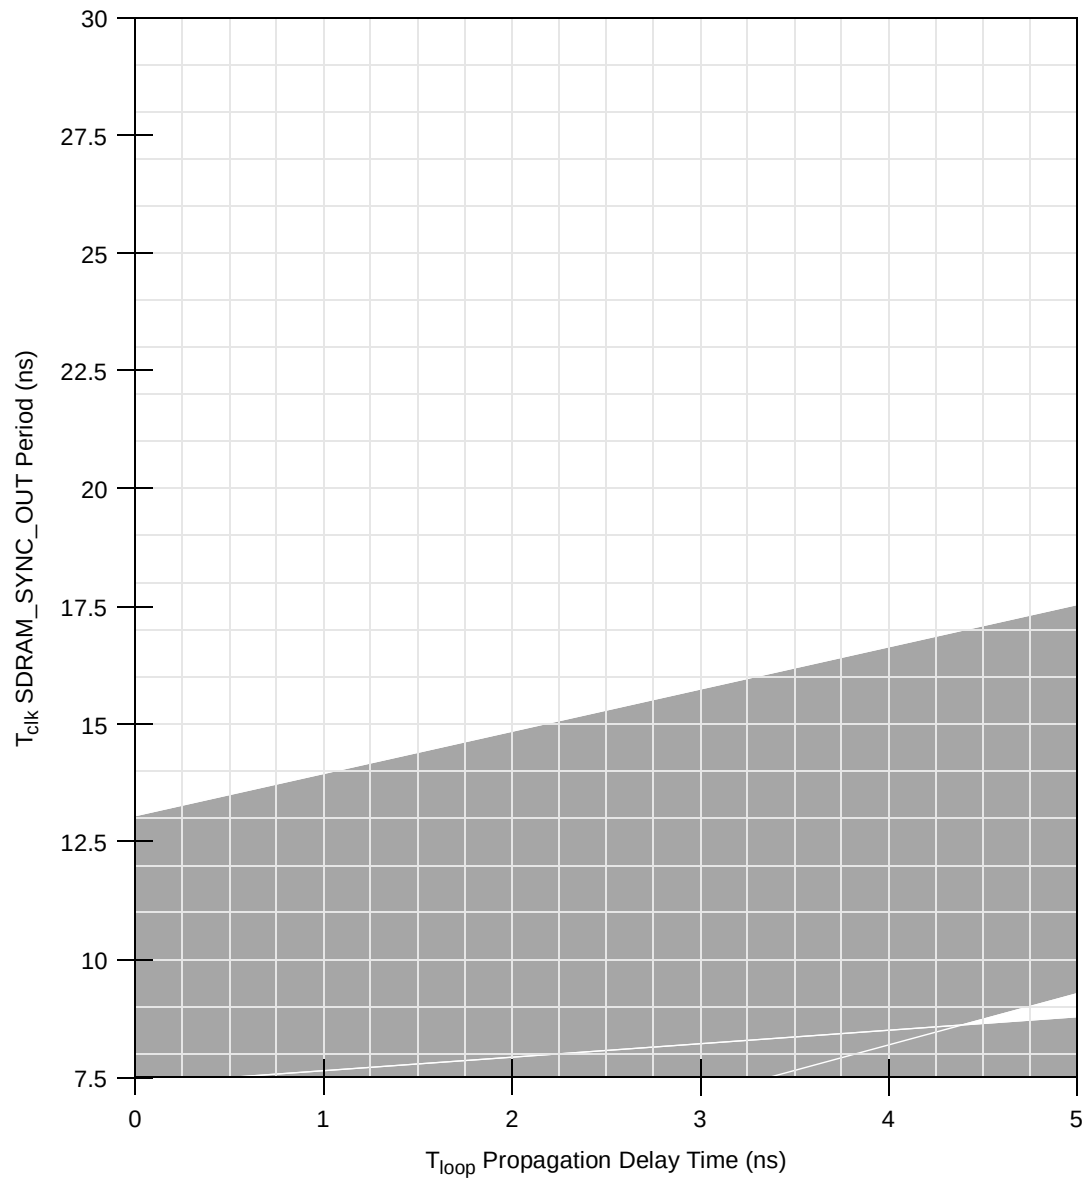
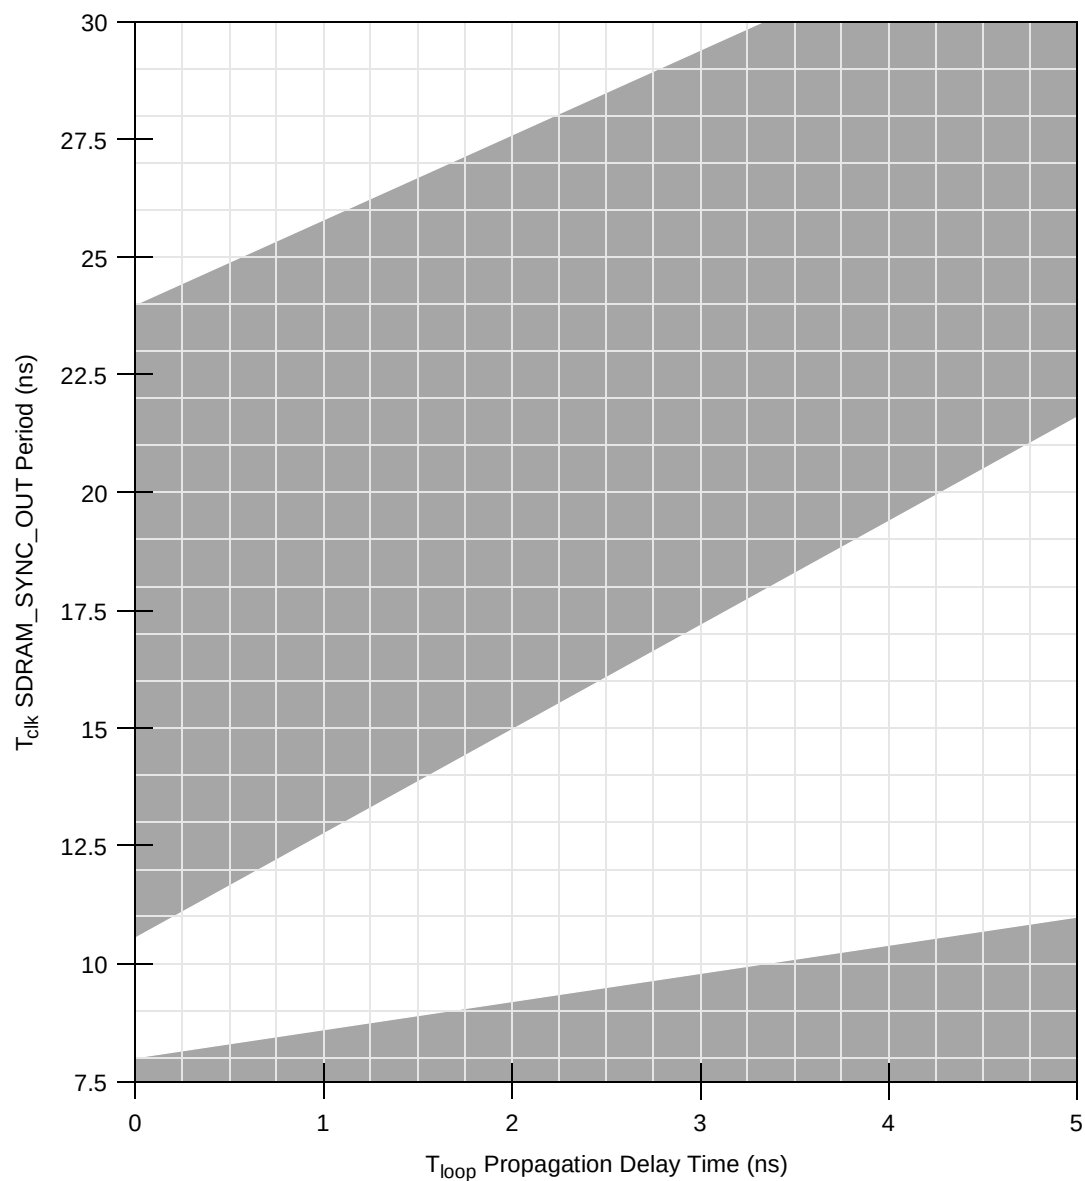
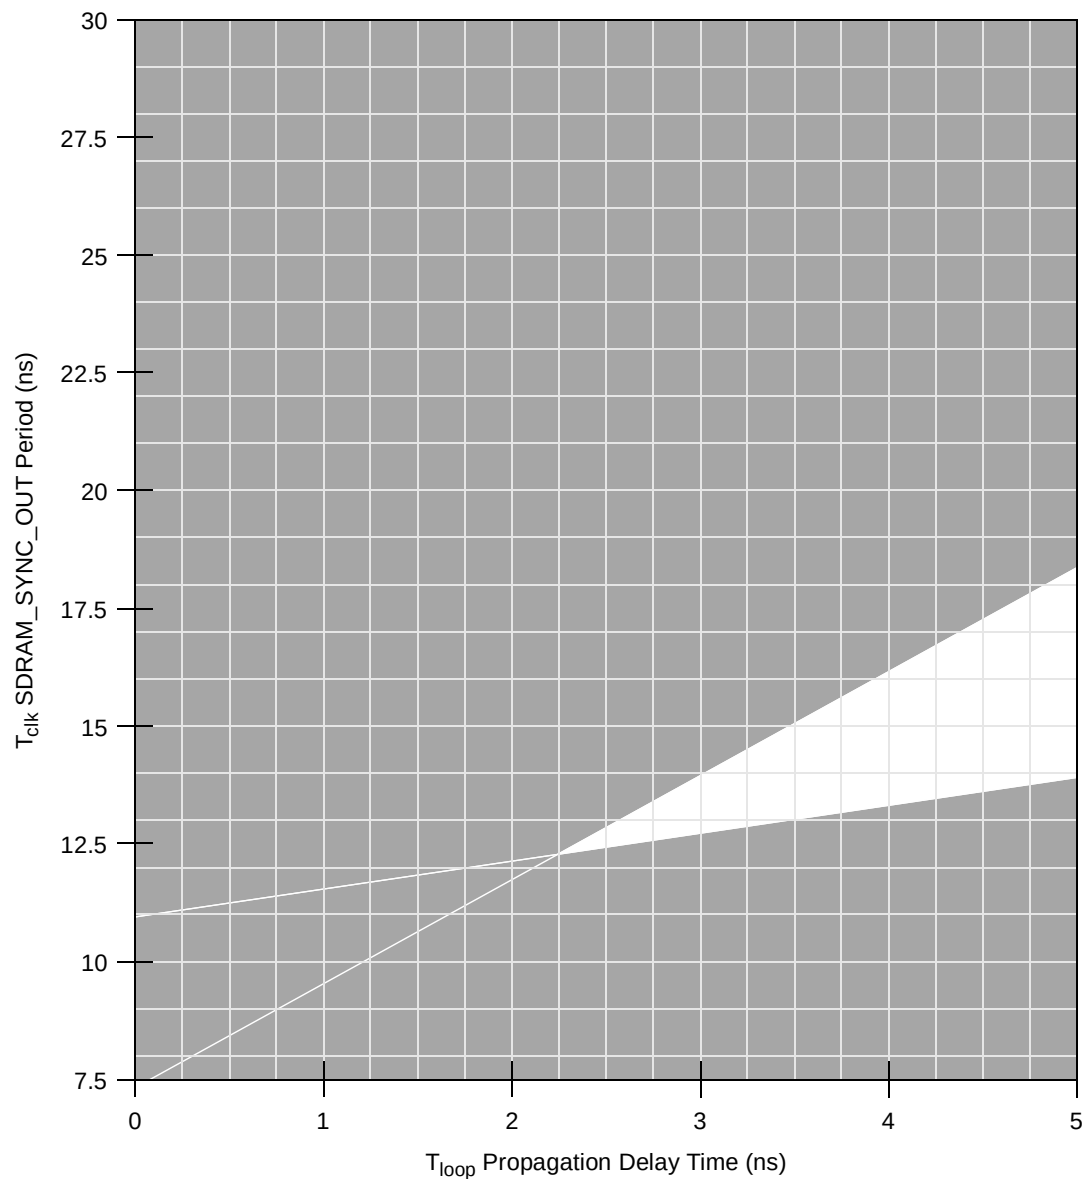

**Figure 7. DLL Locking Range Loop Delay Versus Frequency of Operation for DLL\_Extend=0 and Normal Tap Delay**
**Figure 8. DLL Locking Range Loop Delay Versus Frequency of Operation for DLL\_Extend=1 and Normal Tap Delay**
Figure 10. DLL Locking Range Loop Delay Versus Frequency of Operation for DLL\_Extend=1 and Max Tap Delay
| 15   | DLL lock range with DLL_EXTEND = 0 (disabled) and normal tap delay; (default DLL mode) | See Figure 7 |     | ns   | 6       |
| 16  | DLL lock range for other modes      | See Figure 8 through Figure 10 |     | ns   | 6     |
6. DLL\_EXTEND is bit 7 of the PMC2 register <72>.  $N$  is a non-zero integer (see Figure 7 through Figure 10).  $T_{clk}$  is the period of one SDRAM\_SYNC\_OUT clock cycle in ns.  $T_{loop}$  is the propagation delay of the DLL synchronization feedback loop (PC board runner) from SDRAM\_SYNC\_OUT to SDRAM\_SYNC\_IN in ns; 6.25 inches of loop length (unloaded PC board runner) corresponds to approximately 1 ns of delay. For details about how Figure 7 through Figure 10 may be used refer to the Freescale application note AN2164, *MPC8245/MPC8241 Memory Clock Design Guidelines*, for details on MPC8245 memory clock design.
Figure 7 through Figure 10 show the DLL locking range loop delay vs. frequency of operation. These graphs define the areas of DLL locking for various modes. The gray areas show where the DLL locks.